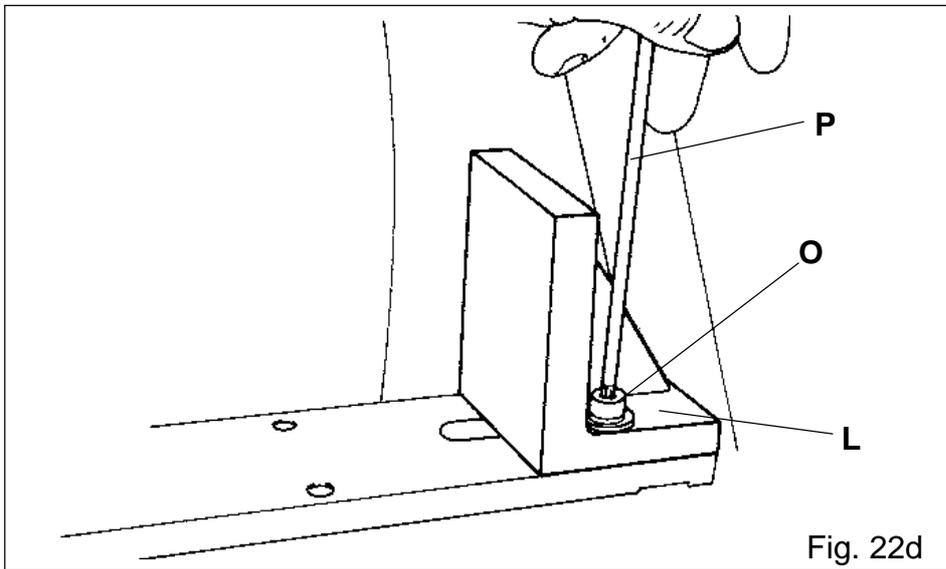

Fig. 22d
- 5° - Align the fence L (fig.22d) and the vertical rollers M (fig.22e) to the front plan profile support of the mobile head, checking through a precision square. If not aligned, operate as follows:
- Loosen screw O (fig.22d) with spanner P (fig.22d)
- Move forward or backward the fence L (fig.22d) until it is perfectly aligned
- Block the screw O (fig.22d) with the appropriate spanner.